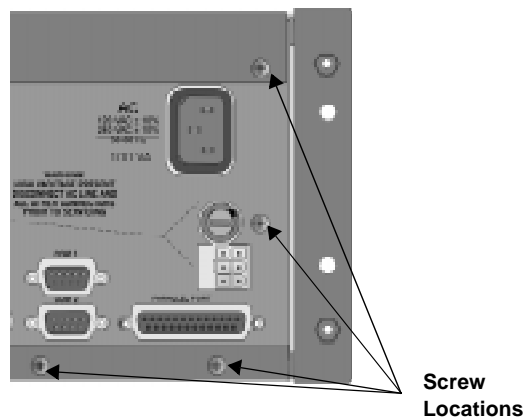

Figure 3-11 Mother Board/Power Supply Assembly Retaining Screw Locations
5. On the back of the receiver remove the four screws that hold the mother board/power supply assembly to the chassis. (See Figure 3-11 for screw locations.)
9. On the back of the receiver replace the four screws that hold the mother board/power supply assembly in place. (See Figure 3-11.)